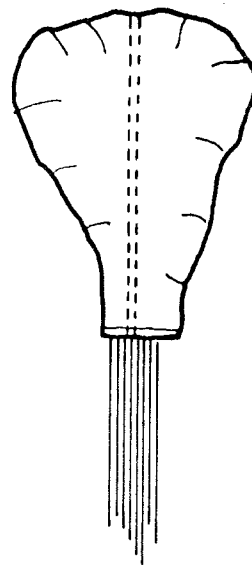
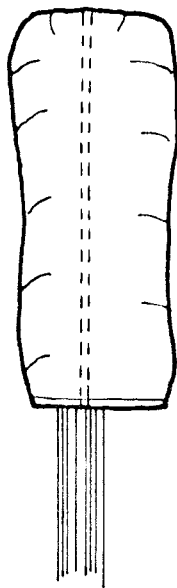

FIG. 5
FIG. 6
3) ALTICO recommends the "Pro-Pack" method of packing the reserve canopy, however, some manufacturers may still recommend the older "conventional" folding method. If the manufacturer of the ram air reserve canopy recommends the Pro-Pack, the canopy will look like FIG. 5 after it has been flaked. The conventional method will look more like FIG. 6. For either method, follow the manufacturer's instructions to this point, and then spread the canopy to either side of the center cell. Now compress and roll the center cell downward until it resembles the "V" shape shown in FIG. 7.
7) Follow the canopy manufacturer's directions for flaking and folding the main canopy. When the canopy resembles FIG. 5, the slider should be all the way up against the canopy as far as it will go, and the stacked canopy should be approximately 3" wider than the deployment bag. Grasp the lower end of the canopy with the suspension line group and make a fold 8" to 10" up onto the canopy as shown in FIG. 6.